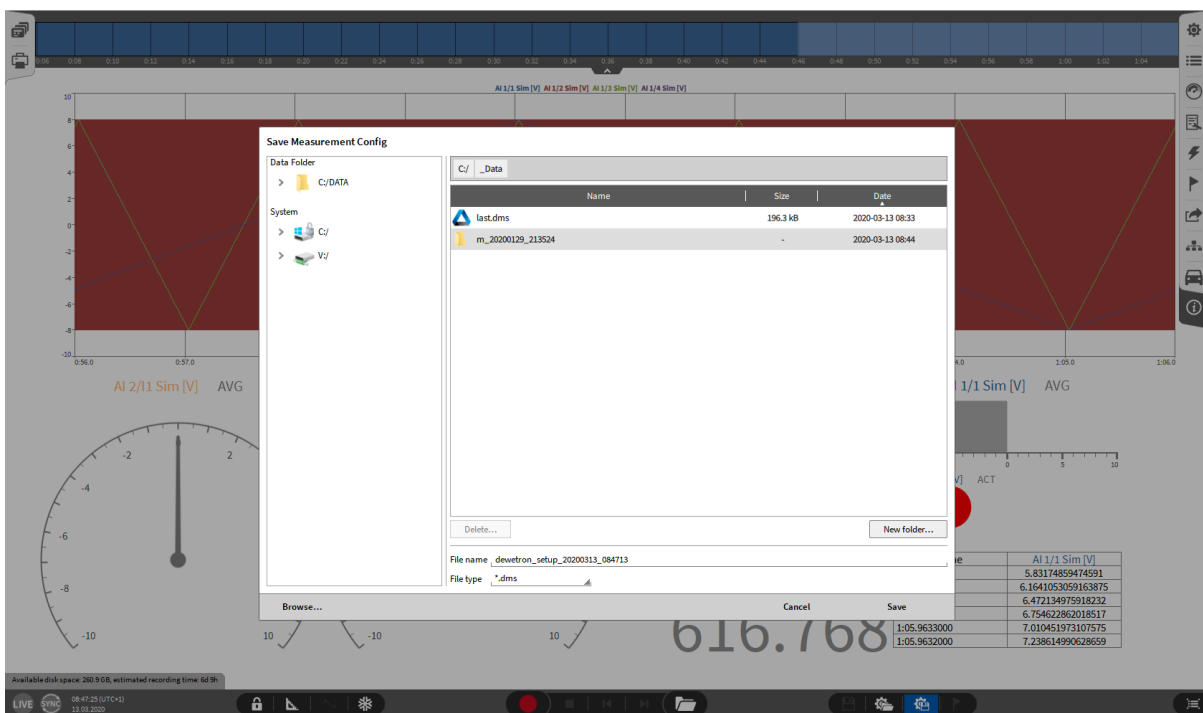

Fig. 3.11: : Different colored stored indicator for online and offline created channels
1. Touch or left click the gear and diskette icon in the Action Bar (see Fig. 3.11 or ⑮ in Fig. 3.5)